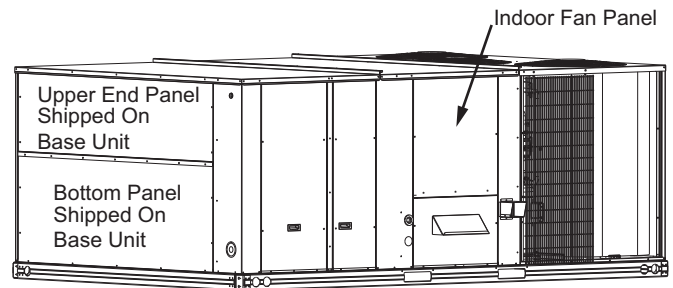

Fig. 2 — Upper and Bottom Panel on End of Unit
3. Remove the upper panel and bottom panel (provided with the RTU base unit) on the end of the unit to expose the return section. (See Fig. 2.) Save the screws and panels for future use if the economizer is ever removed from the unit.
3. Remove the upper panel and bottom panel (provided with the RTU base unit) on the end of the unit to expose the return section. (Refer to Fig. 2.) Save the screws and panels for future use if the economizer is ever removed from the unit.